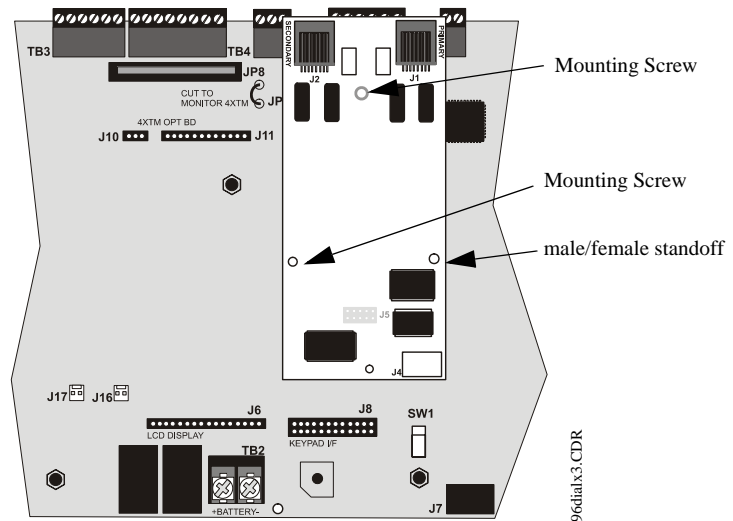

Figure 2.4 DACT-UD2 Installation on Standoffs
- Secure the module to the standoffs on the main circuit board with two of the screws supplied with the DACT-UD2 and the supplied male/female standoff which becomes the new Keypad/Display support in that location (see Figure 2.4)